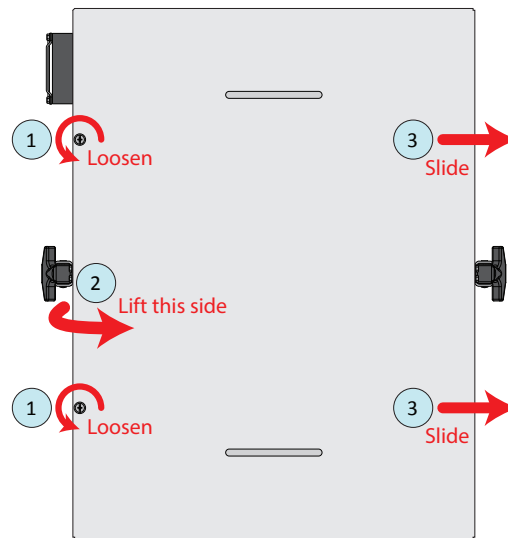

Figure E22. Removing PCB chassis lid.
- 3) Remove the lid of the Cabinet PCB Chassis (see figure E22): ① Loosen the two captive thumb-screws on the lid of the Cabinet PCB Chassis. ② Lift the left edge, ③ slide the lid to the right and lift upward to remove it. **CAUTION:** Be very careful not to drop anything inside the PCB chassis!